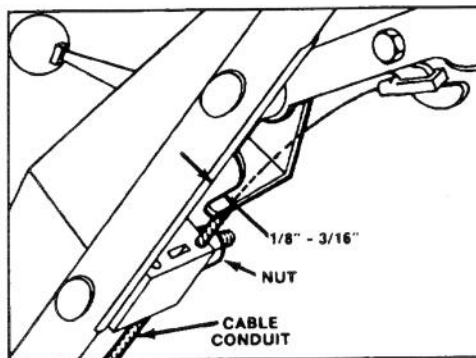

Figure 22
6. **SHARPENING BLADE** — Using a file, sharpen top side of blade and maintain original cutting angle (Fig. 22). The blade will remain balanced if same amount of material is removed from both cutting edges.
2. **CHECK ADJUSTMENT** (Fig. 22) — Move control bar toward handle until slack in wire is removed. Gap between brake lever and handle must be $1/8'' - 3/16''$. See step 3 for adjustment.
3. **ADJUST CABLE CONDUIT** — Loosen nut on cable bracket (Fig. 22). Insert $1/8'' - 3/16''$ object between brake lever and handle. Pull down on cable conduit until slack is removed. Then tighten nut.